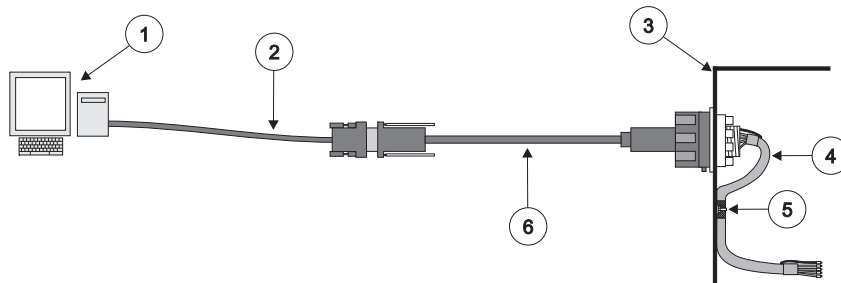

Figure 243:
1. Install the Internal Printer Cable as shown in Figure 243. For detailed installation instructions, see Section 9.2.